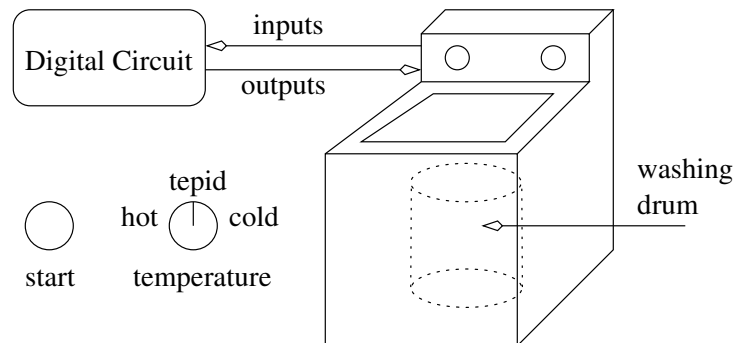

Figure 7.8: A humble washing machine with a close-up of the start button and temperature switch.
12. (24 pts.) Construct a digital circuit to control the operation of a simple washing machine, see Figure 7.8. To use the simple washing machine set the temperature switch to either hot, tepid or cold and then press the start button. To build a digital circuit to control the washing of clothes its necessary to understand the washing cycle. When the start button is pressed water of the selected temperature pours into the washing drum. The simple washing machine has two electronically controlled water valves, the hot valve admits hot water into the washing drum and the cold valve admits cold water. Water continues to pour into the drum until it fills. There are two water level sensors; the full switch signals when the drum is full of water and the empty switch signals when the drum is empty. After the drum is full of water the simple washing machine starts to agitate the clothes. The simple washing machine has a motor controlled by two bits, which agitates (a rapid back and forth motion), spins (a rapid rotation in one direction) or does